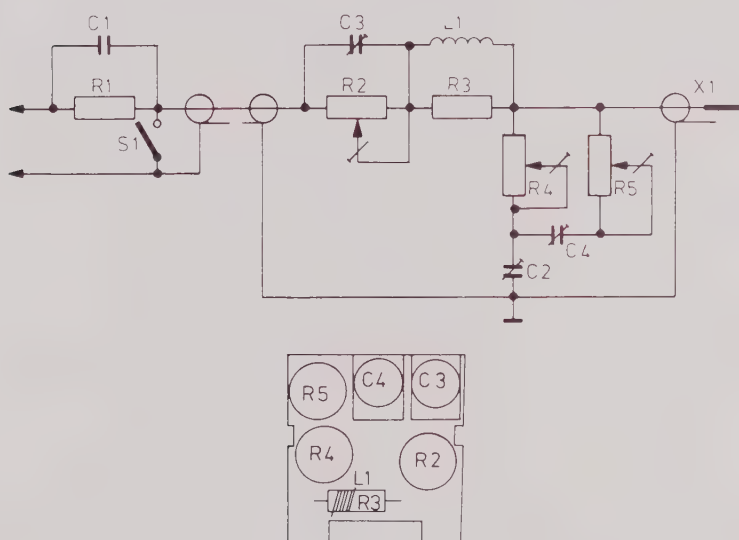

Fig. 1.13. Electrical parts and p.c.b. lay-out of the probe
For the Location of adjustment points C3, C4, R2, R4 and R5 on the p.c.b. in the compensation box, refer to fig. 1.13.
1.4.5.2. Electrical parts (see Fig. 1.13.)